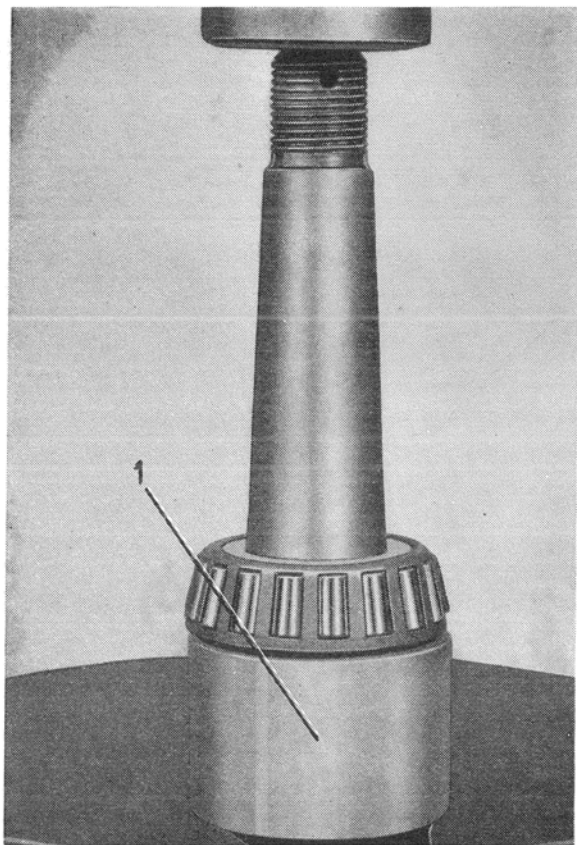

Fig. 10. Removal of axle shaft bearing.
3. Press off the bearing as shown in fig. 10 and then fit the new (see the tool list on